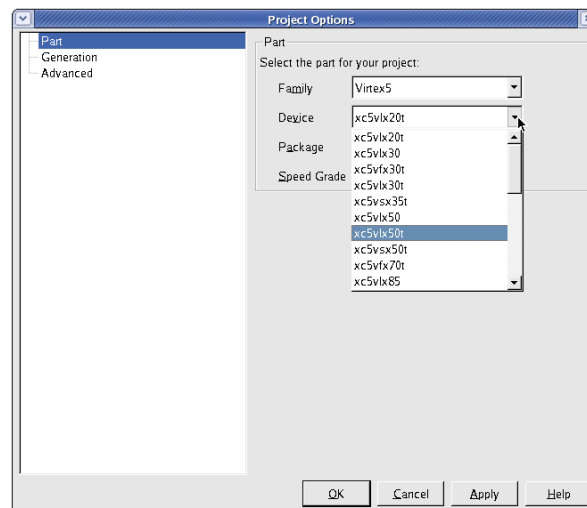

Figure 3-3: Target Architecture Setting
4. Select an appropriate package from the Package list. This example uses the XC5VLX50T device (see Figure 3-3).
/FPGA Features & Design/IO Interfaces. (See Figure 3-3)